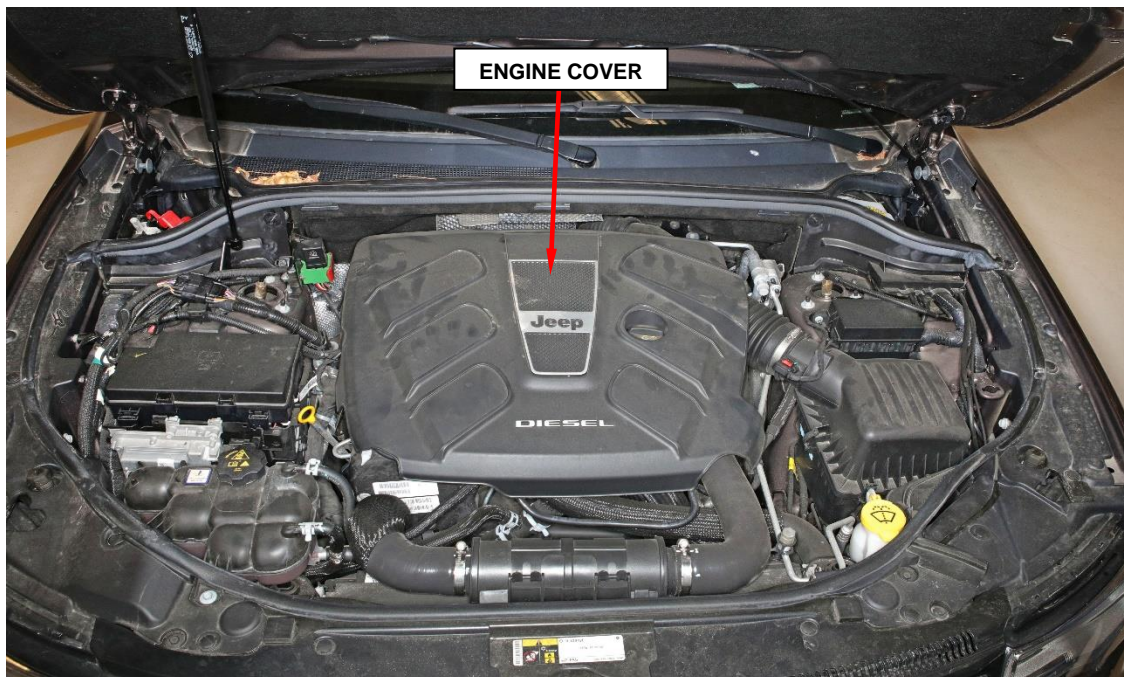

Figure 2 – Engine Compartment
3. Remove the engine cover (Figure 2).